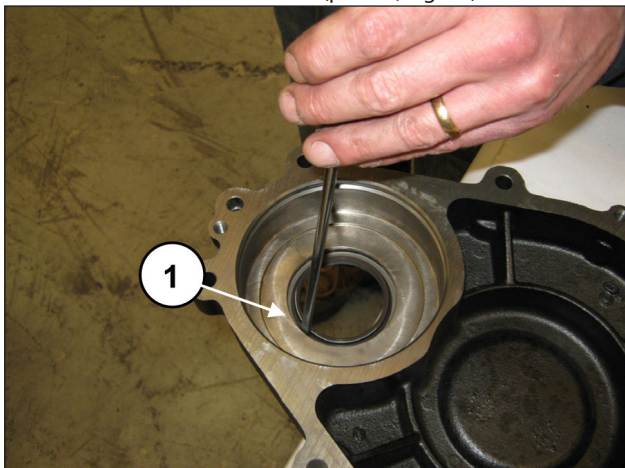

Fig. 11
Extract the seal ring from the reduction gear cover, working from the inner side of the cover (pos. ①, Fig. 11).